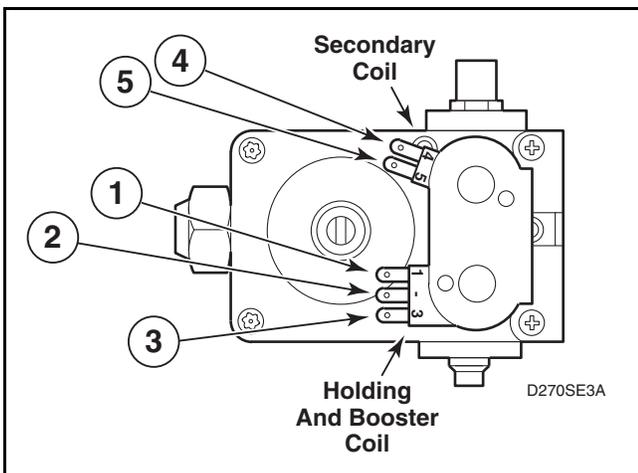

Figure 49
- d. Remove valve wire harness disconnect block from the holding and booster coil. Refer to *Figure 49*.
- e. Set test meter to read Ohms and put meter probes to terminals shown in *Figure 49*, and in the following chart.